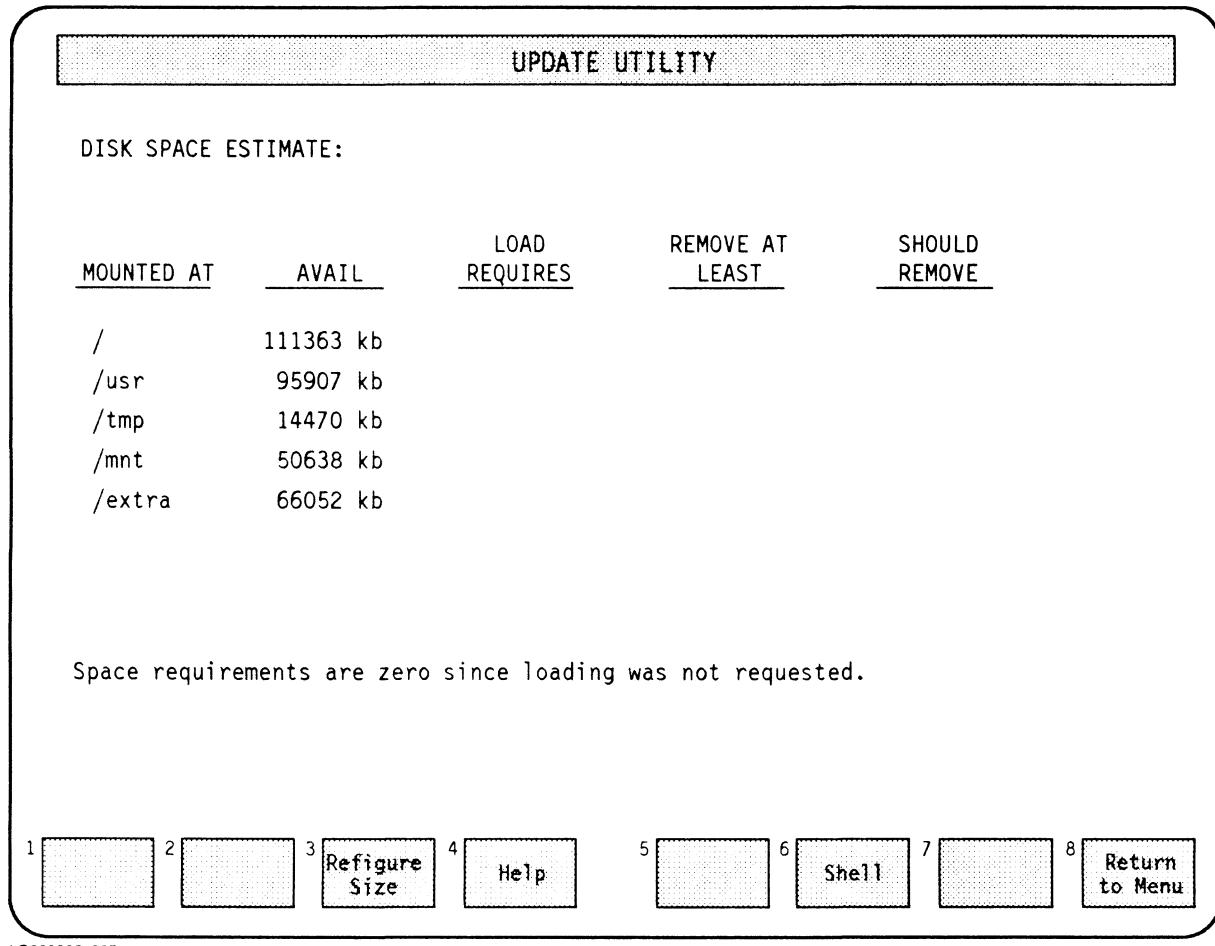

Figure 7-4.
Figure 7-4 shows the keys for the **Disk Space Menu (1)** screen. The effect of pressing each key is as follows: